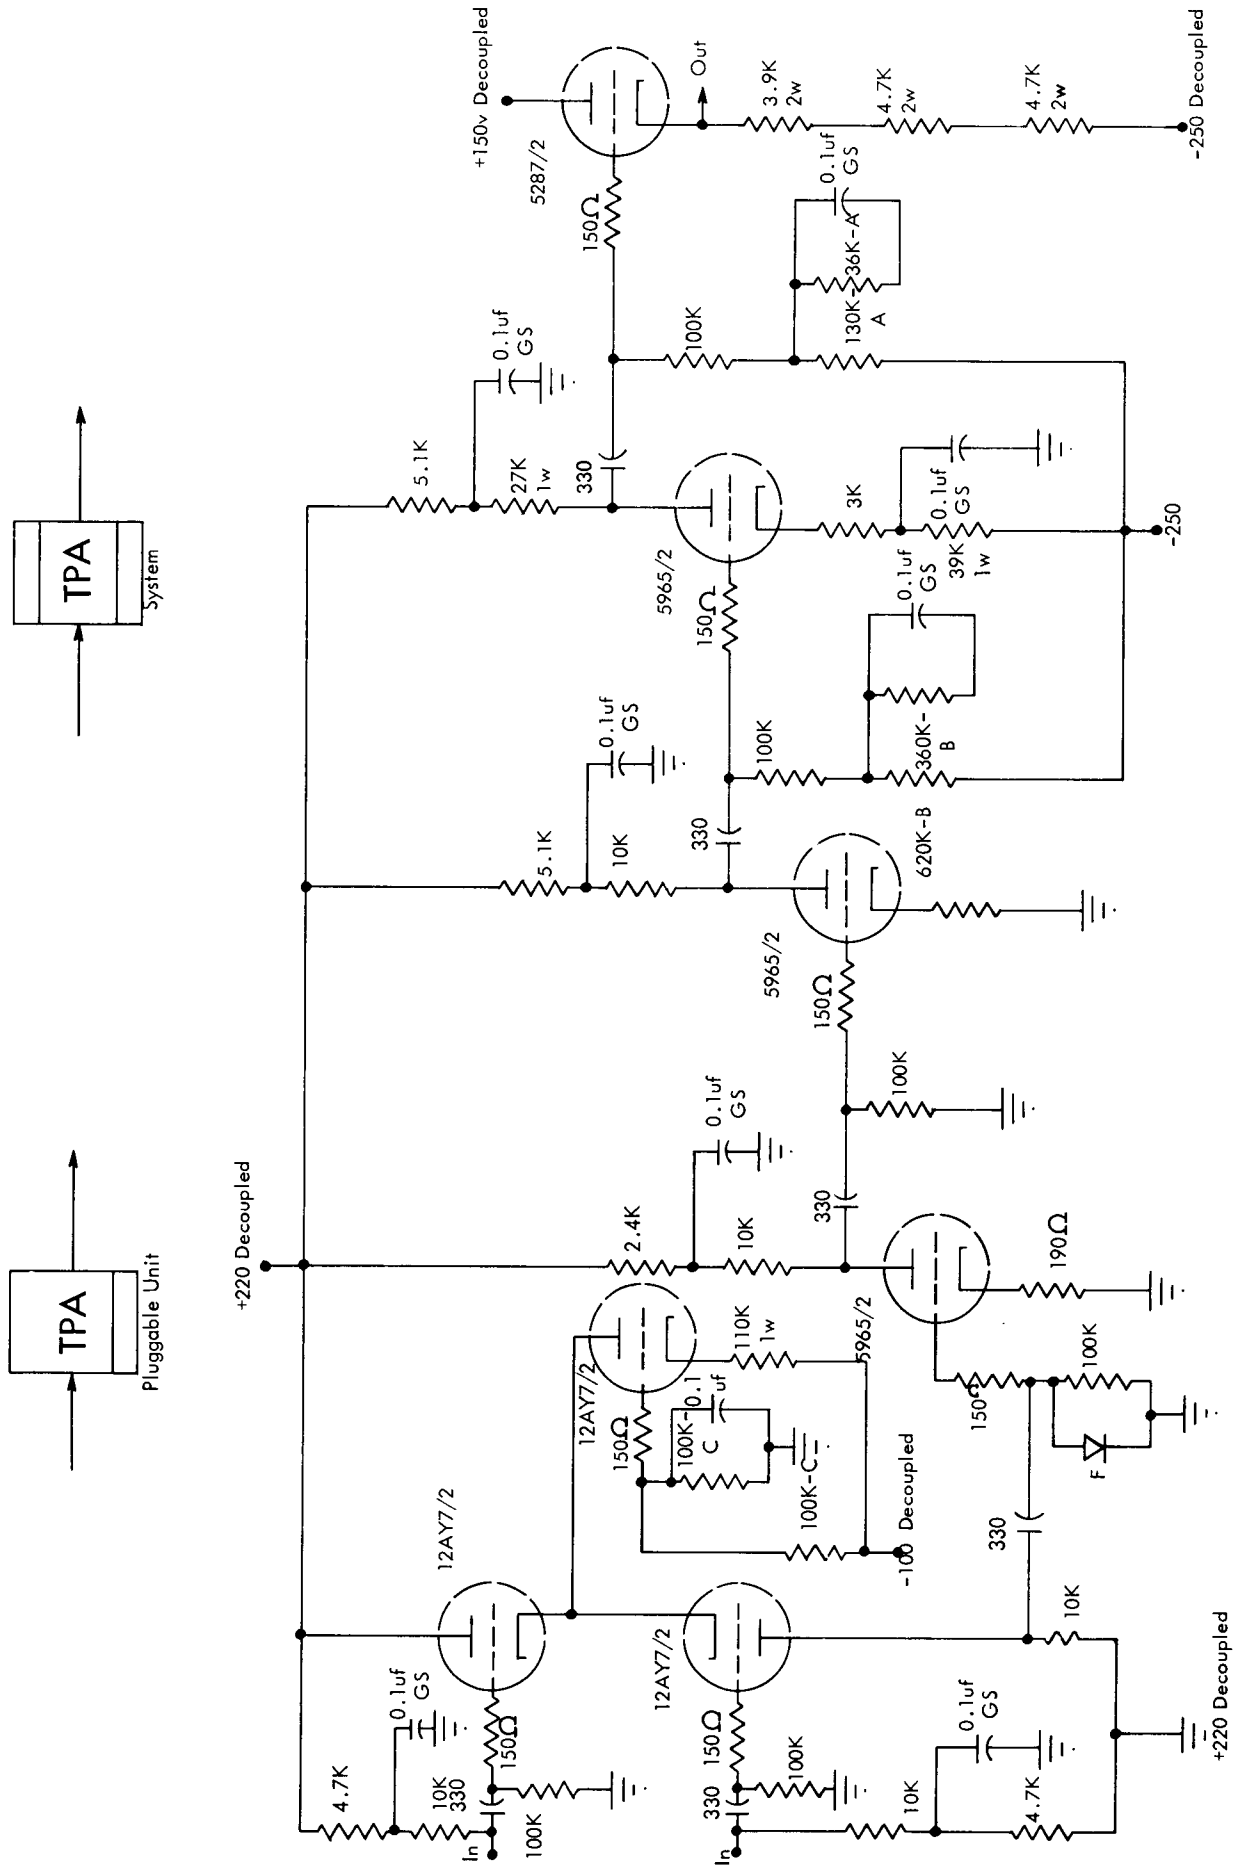

FIGURE B55. TIMING PULSE AMPLIFIER (TPA)
The TPA is shown in Figure B55. Except for the input stage, this amplifier is similar to the drum amplifier (AD). The output of this stage is developed across the 10K resistor in the lower half of the first duo-triode circuit. Now, if the voltages induced from the write circuits are large enough, some of this voltage is fed through the PA_T into the first stage of the TPA. This voltage, along with the common mode variation is fed into the two input terminals approximately in phase. Consider an instance when the two grids take a positive excursion. The top half of the tube, being a cathode follower, pulls the cathode in the positive direction. This cathode shift is about the same in magnitude as the input shift. This same shift is also applied to the lower half of the tube. Both grid and cathode go positive by the same amount. The current across the 10K plate resistor changes very little. The unwanted signal is rejected.